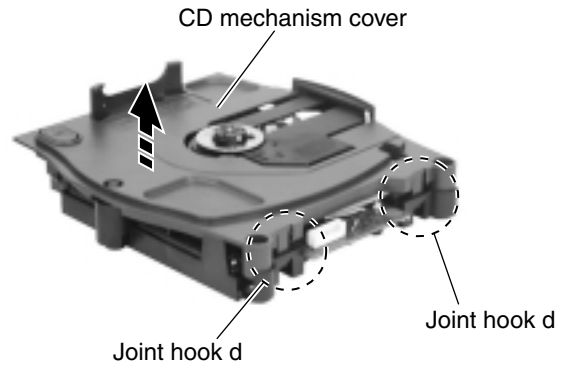

Fig.22
■ Removing the CD mechanism assembly (See Fig.22 to 26)